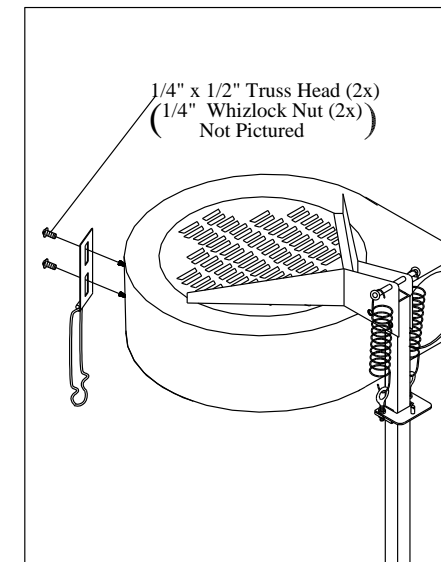

Fig. 9
8. Align slots on container latch (17) to holes in molded top (16). Secure with 1/4" x 1/2" truss screws and whizlocks. (Fig. 9)